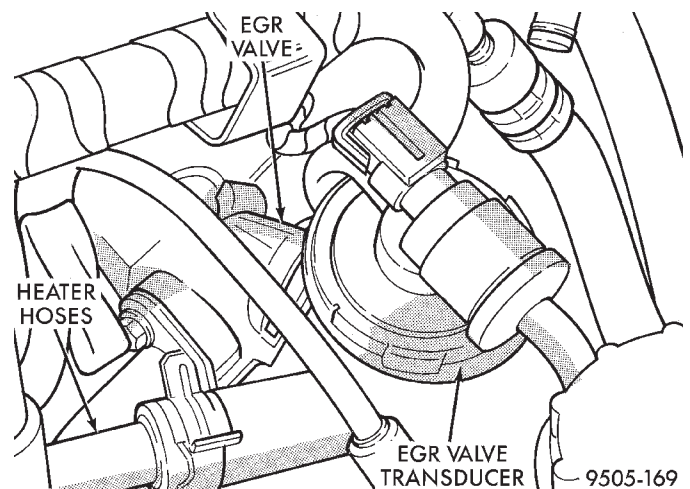

Fig. 94 EGR Valve Transducer Assembly
(7) Remove EGR valve transducer assembly and vacuum hoses (Fig. 94) from the EGR valve. **Valve removal is necessary for required clearance to remove power brake vacuum booster from vehicle and not damage transducer during removal.**
(10) Install the EGR transducer assembly on the EGR valve (Fig. 94). Install the vehicle wiring harness connector (Fig. 94) on the EGR transducer, ensuring the retaining clip is fully engaged with transducer.